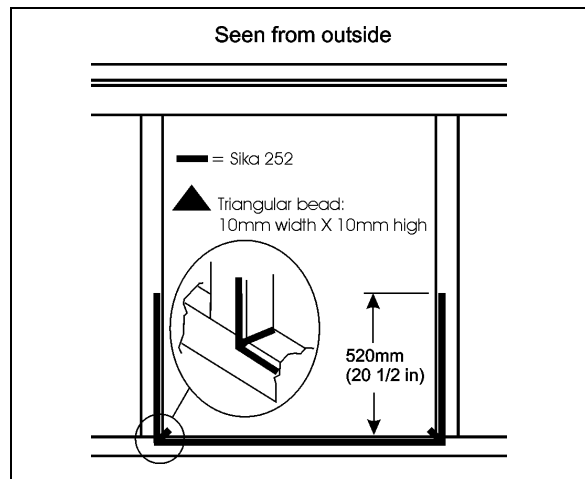

FIGURE 71: AWNING WINDOW – SIKa 252 APPLICATION
- Apply Sika 252 as per FIGURE 71 (triangular bead: 10mm width X 10mm high) [10mm≈3/8”];